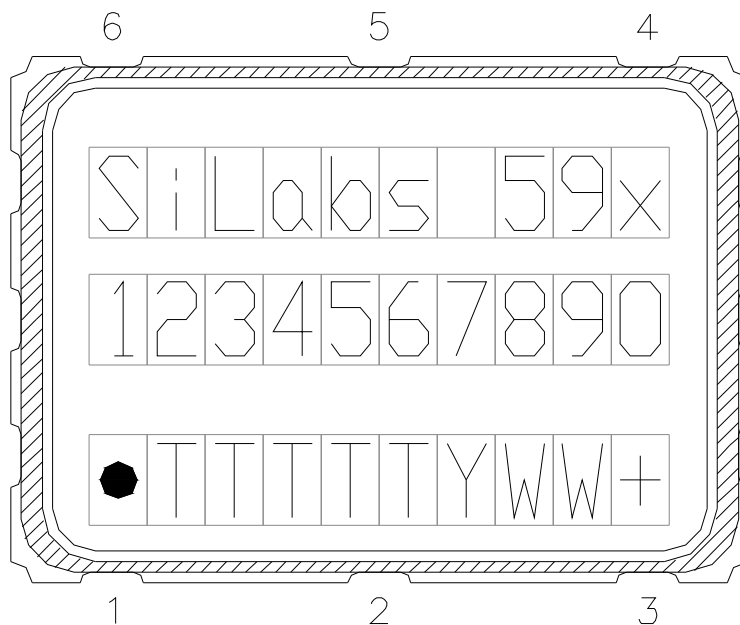

Figure 6. Mark Specification
Figure 6 illustrates the mark specification for the Si59x. Table 18 lists the line information.
- Updated Figure 6 and Table 18 on page 24 to reflect specific marking information.